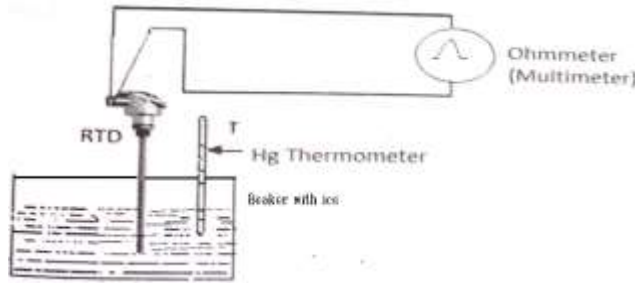

Fig.1 Ice-bath
- 1) Immerse the RTD into ice-bath and note down the resistance and temperature (as shown in fig.1).